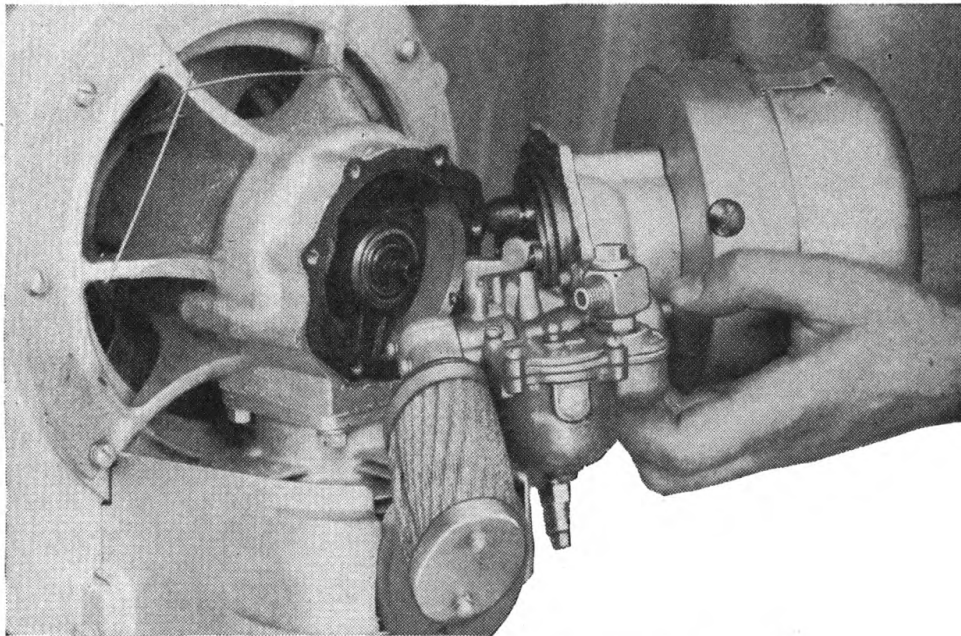

FIGURE 15.—Removing magneto and carburetor assembly.
(c) Remove the timer bracket screws. The magneto and carburetor can be removed as an assembly (fig. 15). (For work on the magneto and magneto assembly see instructions in (2) below.